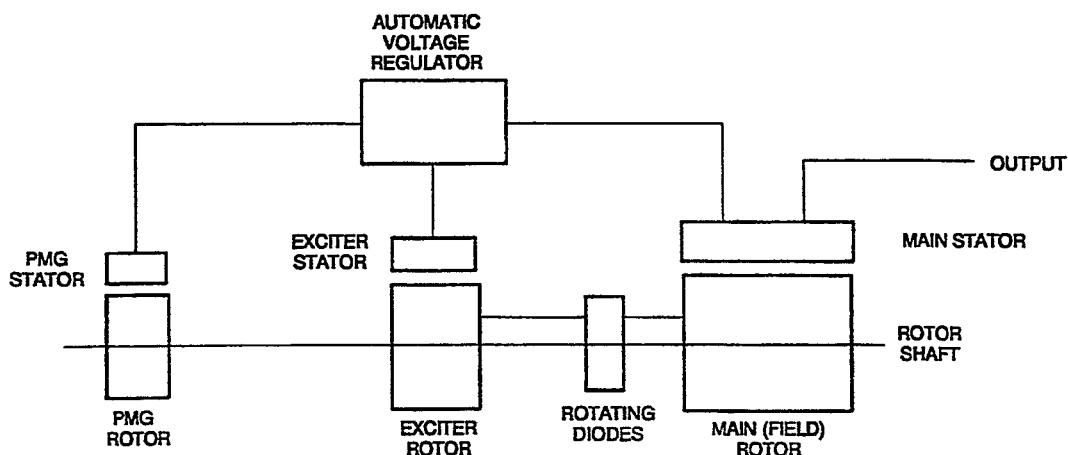

FIGURE 2-1. GENERATOR SCHEMATIC
1. The generator field (four-pole magnetic rotor) is rotated by the engine to induce output current (AC) in the main stator windings (Figure 2-1).